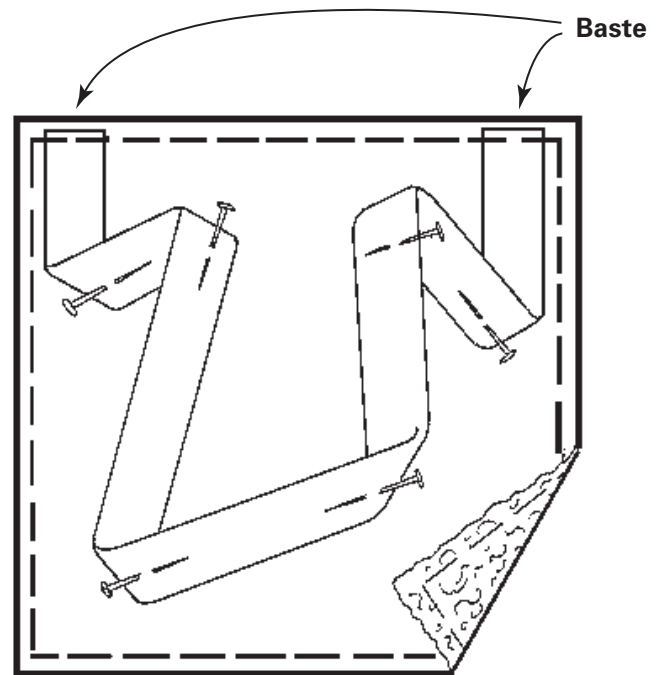

Fig. 17-1
3. For the optional strap: With right sides together, fold the fabric for the strap in half lengthwise. Sew the long raw edges together, using a $\frac{3}{8}$ -inch (1-cm) seam allowance. Turn the strap right side out and press. Pin the ends of the strap to the right side of the top edge of the padded pocket, with the strap folds $\frac{3}{4}$ inch (2 cm) from the pocket sides. Baste the strap in place. Pin the strap away from seam allowances. (Fig. 17-1)